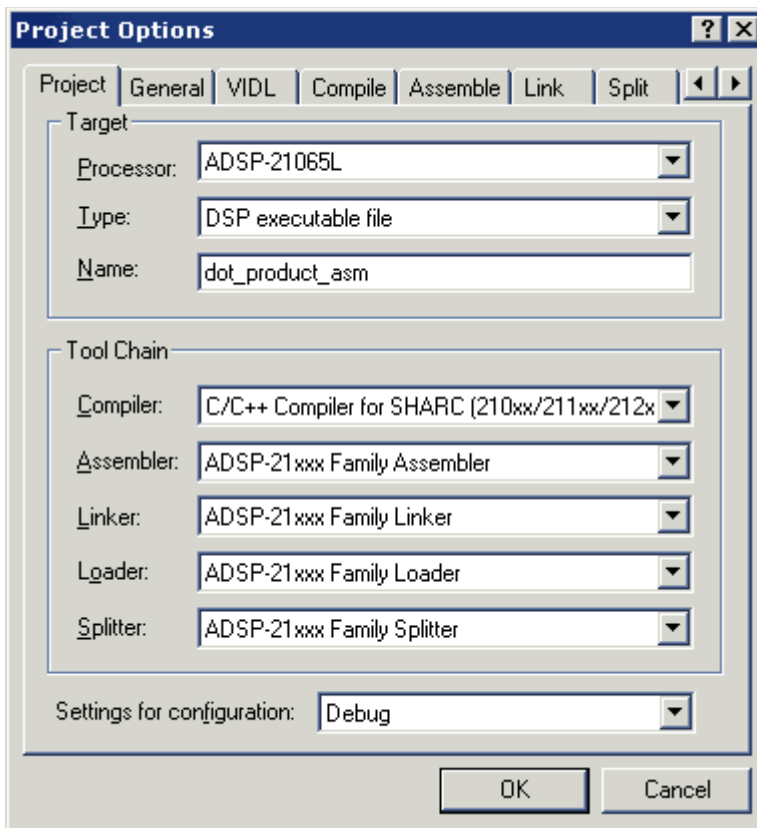

Figure 2-11. Project Options Dialog Box: Project Page
The **Project Options** dialog box (Figure 2-11) appears.
6. On the **Project** page (Figure 2-11 on page 2-17), specify the following values.